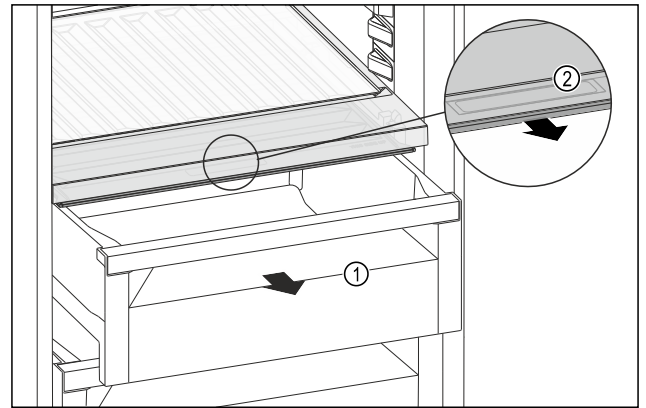

Fig. 127
- Pull out the drawer Fig. 127 (1).
- Grasp the recessed grip Fig. 127 (2) on the compartment lid and pull the compartment lid forwards at the same time.